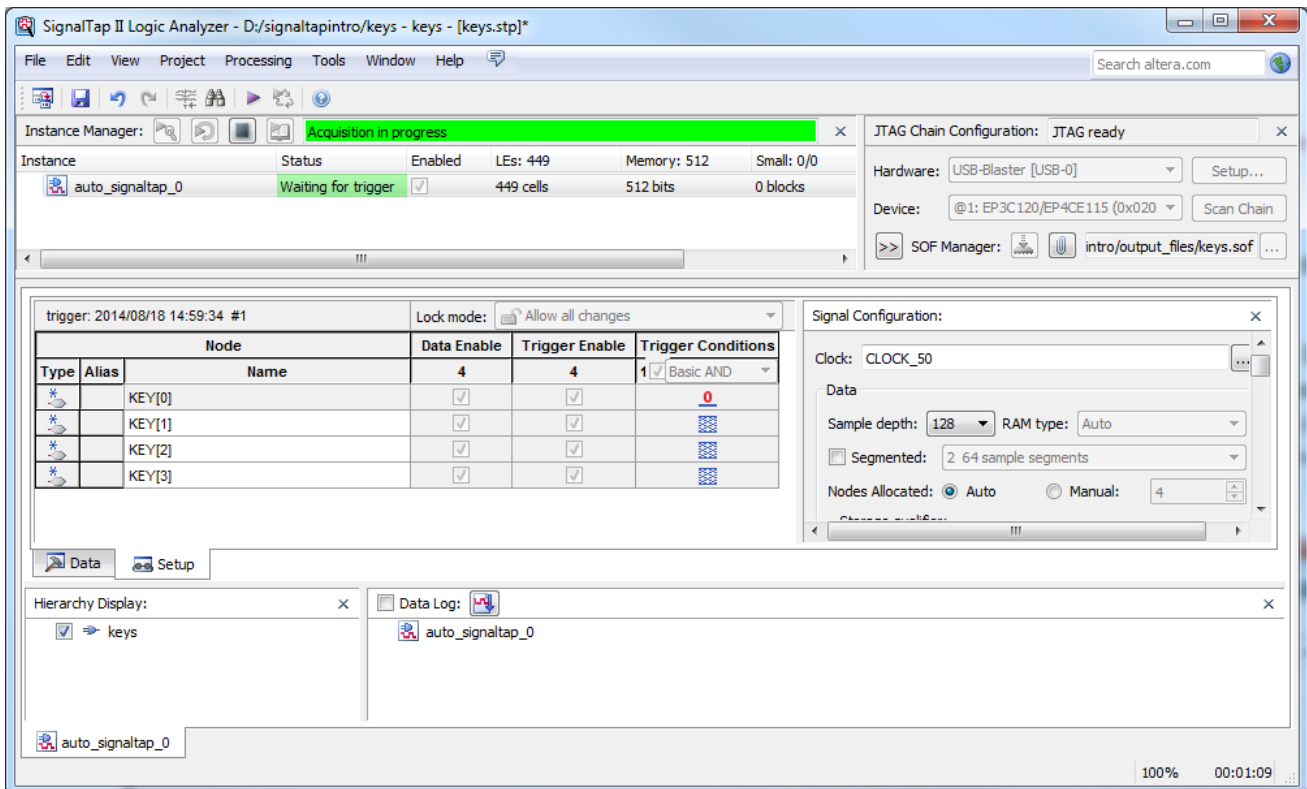

Figure 12. SignalTap II window on a DE-series board after Run Analysis has been clicked.
1. On the DE-series board, first ensure that none of the keys (0-3) is being pressed. We will try to probe the values of these keys once key 0 is pressed.
2. In the SignalTap window, select Processing > Run Analysis or click the  icon. Then, click on the Data tab of the SignalTap II Window. You should get a screen similar to Figure 12. Note that the status column of the SignalTap II Instance Manager pane says "Waiting for trigger." This is because the trigger condition (Key 0 being low) has not yet been met.